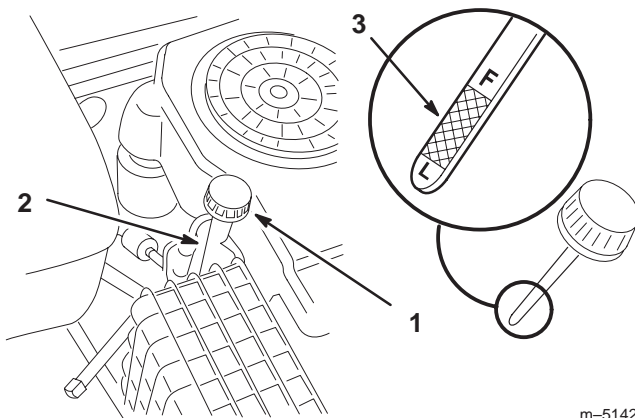

Figure 16
2. Clean around the oil dipstick (Fig. 16) so that dirt cannot fall into the filler hole and damage the engine.
3. Unscrew the oil dipstick and wipe the metal end clean (Fig. 16).
4. Slide the oil dipstick fully into the filler tube, but do not thread it onto the tube (Fig. 16). Pull the dipstick out and look at the metal end. If the oil level is low, slowly pour only enough oil into the filler tube to raise the level to, but not over, the "F" mark on the dipstick.
8. Slowly pour approximately 80% of the specified amount of oil, page 21, into the filler tube (Fig. 16).